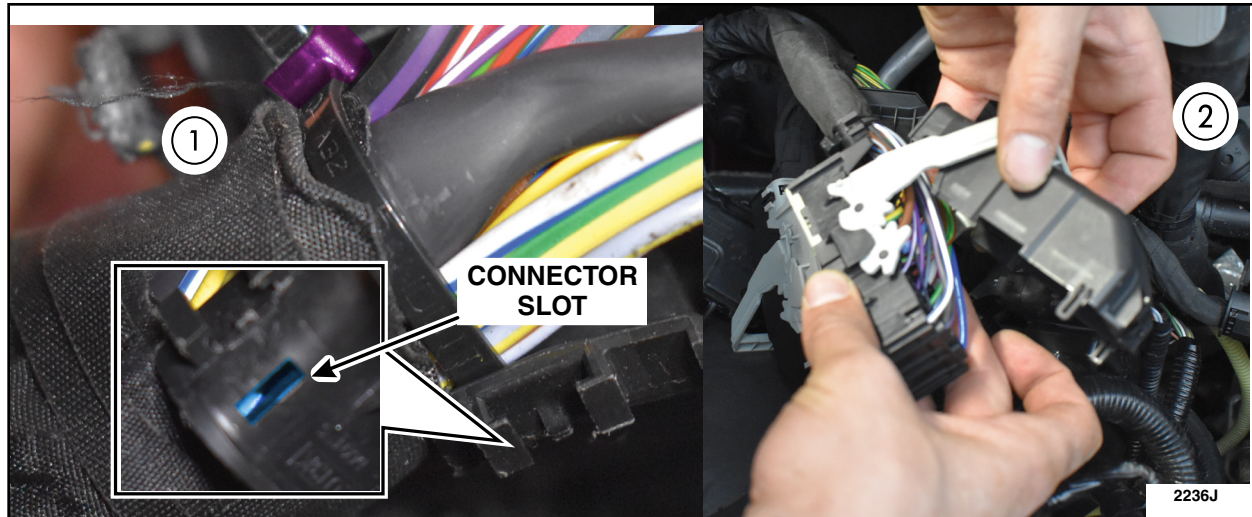

FIGURE 23
26. Secure wire covering and wire bundle with a zip tie. Clip back shell into place on connector C1035B. See Figure 23.